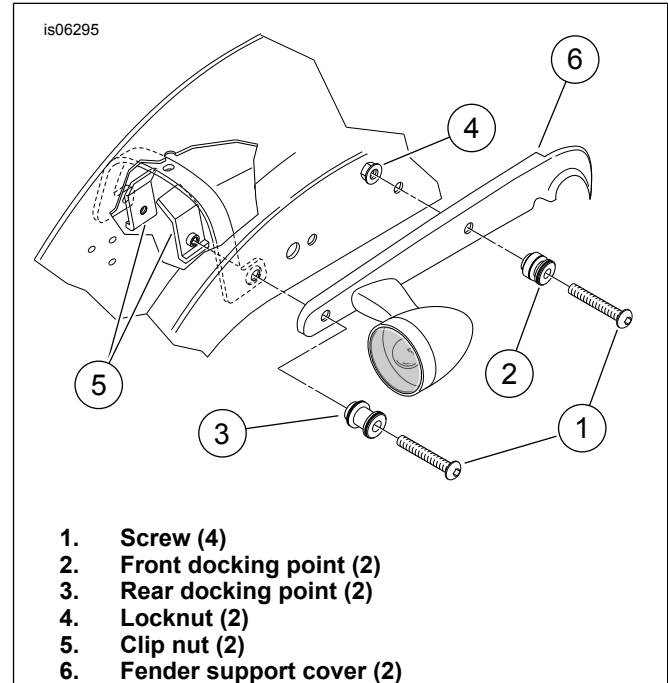
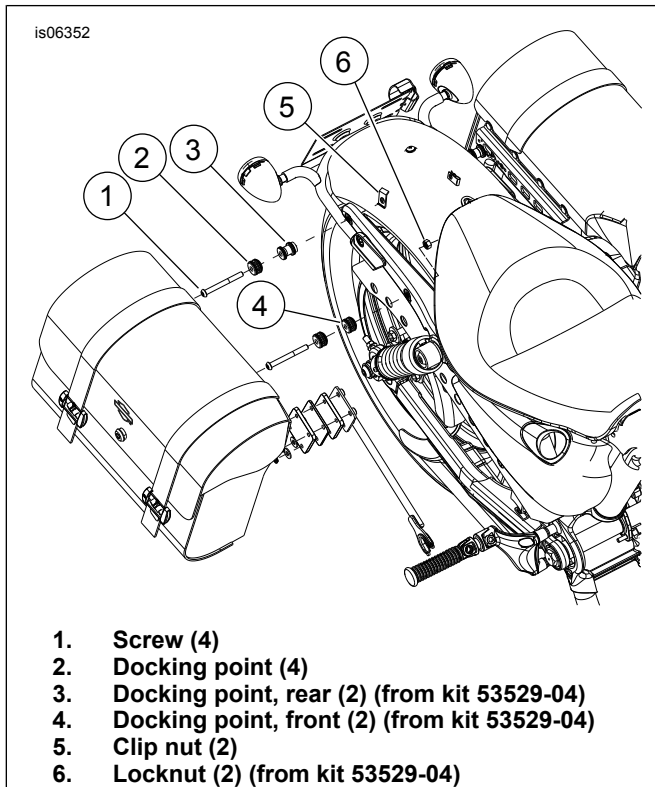
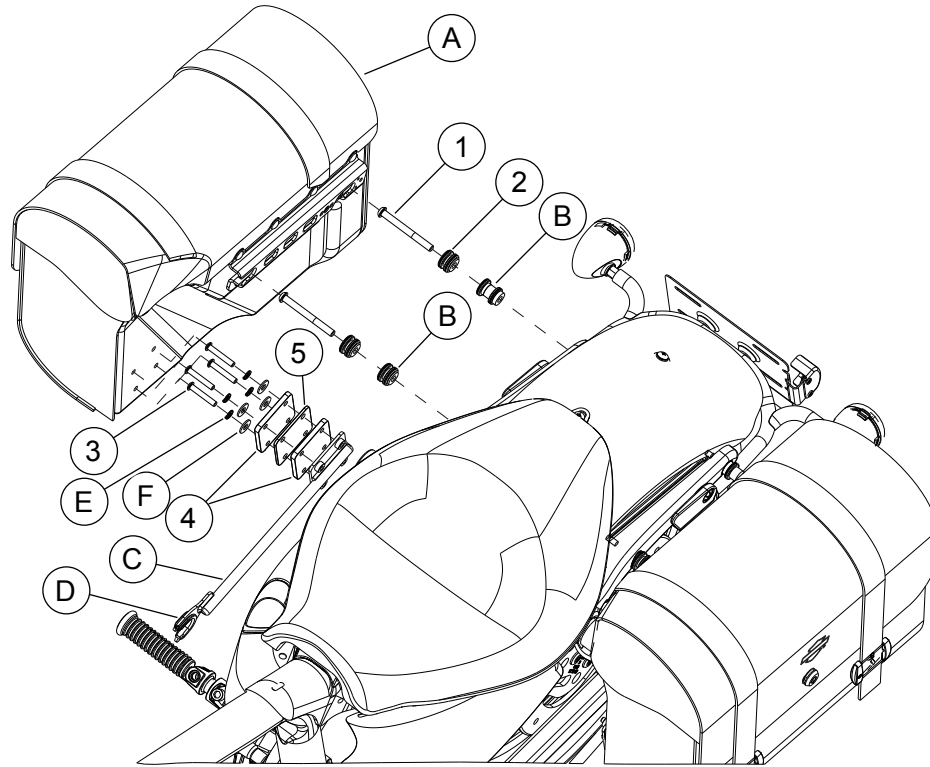

Figure 1. Rear Fender Support
Figure 2. Docking Hardware Stack-Up
Figure 3. Service Parts: Docking Hardware
See Figure 3 and Table 1.
1. See Figure 1. Remove the front screw (1) and locknut (4) from the rear-fender support cover (6). Discard the screw. Discard the stock locknut **if** docking points were not previously installed. Retain the front docking point (2) and locknut (4) if docking points previously installed.
2. Remove the rear screw (1) and clip nut (5) from the rear fender support cover taking note of the orientation of the clip nut inside the fender supports. Discard the screw, but retain the clip nut. Retain the rear docking point (3) if previously installed.
3. Remove and relocate the rear turn-signals from the rear fender support covers (6) per instructions provided in the service manual and relocation kit.
4. See Figure 3. **If** support arms are already assembled to the saddlebags, remove screws, lock and flat washers and support arms from the saddlebags. Retain the support arms and washers. Discard the screws.
1. See Figure 2. Obtain a docking point (2) and screw (1) from the kit, and front docking point (4) and locknut (6) removed earlier. Note the small diameter collar on one end of both docking points.
4. Obtain a docking point (2) and screw (1) from the kit, and rear docking point (3) and clip nut (5) removed earlier. Note the small diameter collar on one end of both docking points.
8. See Figure 3. Obtain four screws (3), two spacers (4), (1/4 in. (6.3 mm) thick) and one spacer (5), (1/8 in. (3.2 mm) thick) from the kit and support arm (C), four lock washers (E) and four flat washers (F) removed earlier.